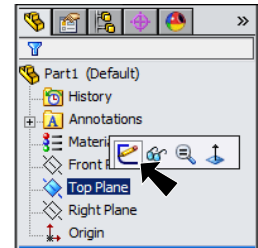
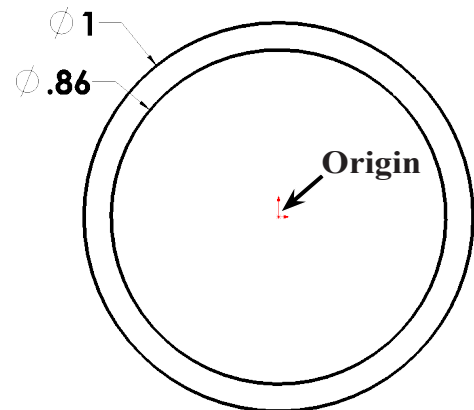

Fig. 1
Fig. 2
Step 2. Click **Top Plane**  in the Feature Manager and click **Sketch**  on the Context toolbar, **Fig. 1**.
Step 3. Click **Circle**  (S) on the Sketch toolbar.
Step 4. Draw **two circles** starting at the Origin , **Fig. 2**.
Step 5. Click **Smart Dimension**  (S) on the Sketch toolbar.
Step 6. Dimension the circles **1** and **.86**, **Fig. 2**.